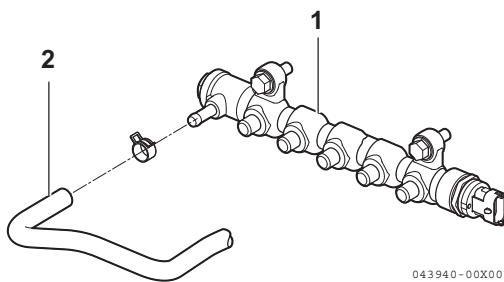

Figure 7-6
2. Remove the wiring coupler of the pressure sensor (Figure 7-6, (3)).
3. Remove the leak piping (Figure 7-6, (2)) from the pressure limiter (Figure 7-6, (1)).